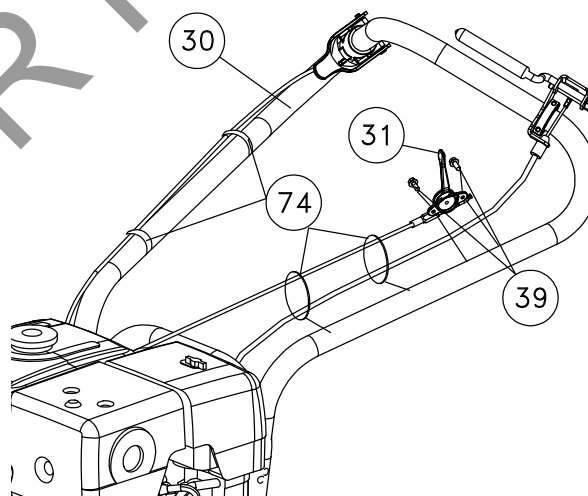

Fig. 2
2. The throttle control will be attached to the throttle arm on the engine and wrapped around the engine for shipping. Unwrap and secure throttle control (item #31) to upper handle with screws (item #39). Screws will already be mounted in handle. Simply remove and use to mount the throttle control. Secure the throttle cable and clutch cable with two Ty-wraps (item #74). The Aim-and-Shoot™ is not attached. You will need to unroll the cable and attach the ball end to the lever and seat the cable end into the hole on the saddle clamp, with the cable running through the slot. The clutch cable will also be wrapped up under the machine. Route the cable under the axle and attach it by removing the hitch pin and clevis pin and attaching it to the clutch control lever. After it is attached pull on the cable and slide it into the hole on the bracket so that it clicks into place. To keep the cable from being damaged use two ty-wraps (item #74) to secure it to the handle as shown, making sure that the cable is not rubbing against the tire. **NOTE:** the cable should be seated properly in the saddle and should follow the contours of the handle. (See Fig. 2 and 3)